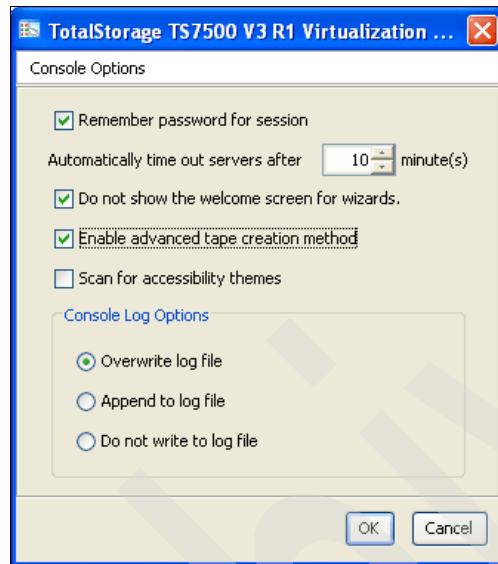

Figure 6-77 Activating the advanced tape creation method
1. You activate the advanced tape creation method from with the TS7530 VE for Tape Console Options window. Select **Tools** → **Console Options**, then select **Enable advanced tape creation method**, as shown in Figure 6-77. Click **OK**.